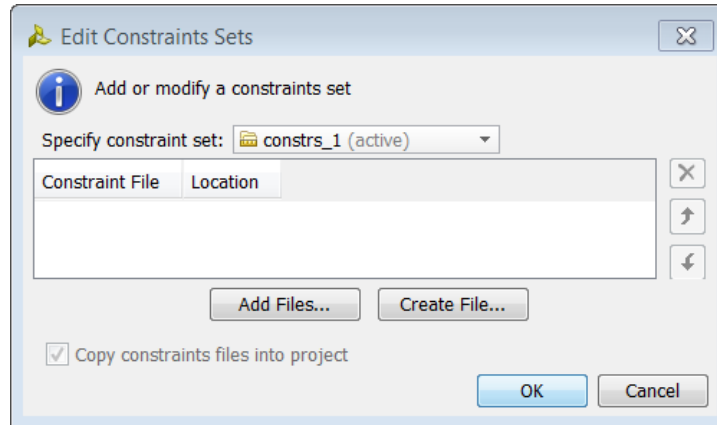

Figure 118: Edit Constraints Set Dialog Box
3. Click **Create File** (FIGURE 118).